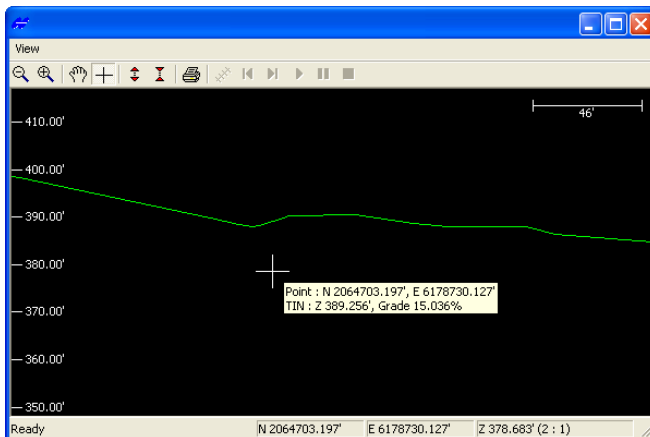

**Figure 5-17. Select Area to View in Profile**
2. In the Plan View, click a location at which to begin the profile. Stretch the line across the field and click once to end it (Figure 5-17 on page 5-19).